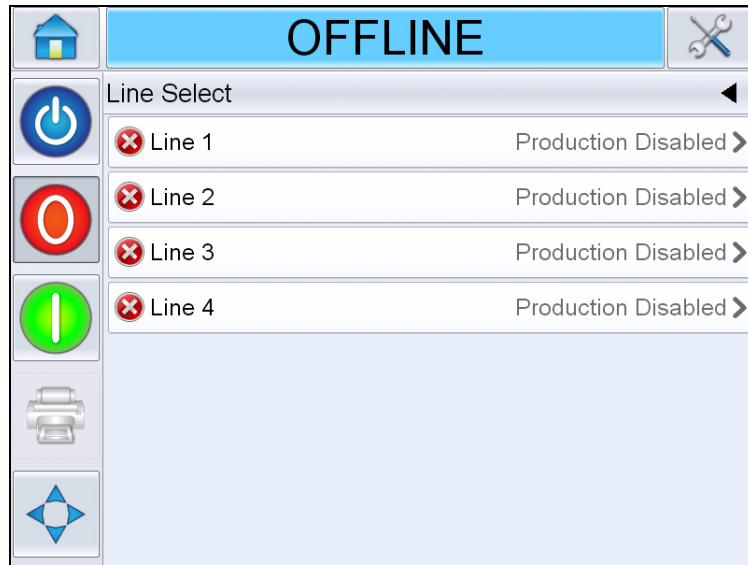

Figure 6-29: Line Select
- a. Select *Line 1* (Figure 6-29).